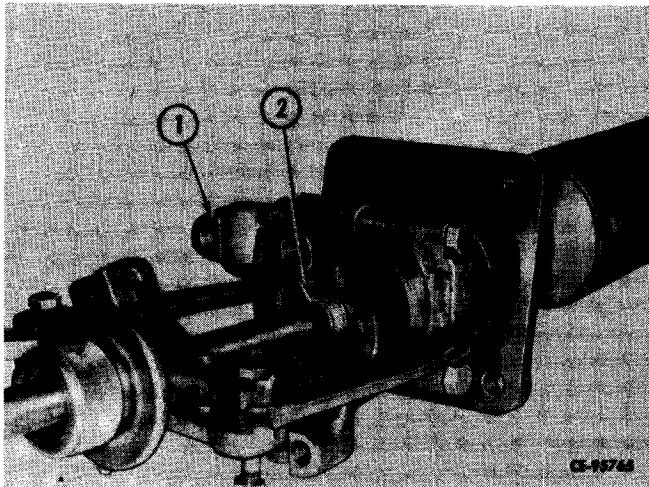

Figure 5-5
Using a suitable puller, remove yoke (1, Fig. 5-5) from end of drive shaft (2).